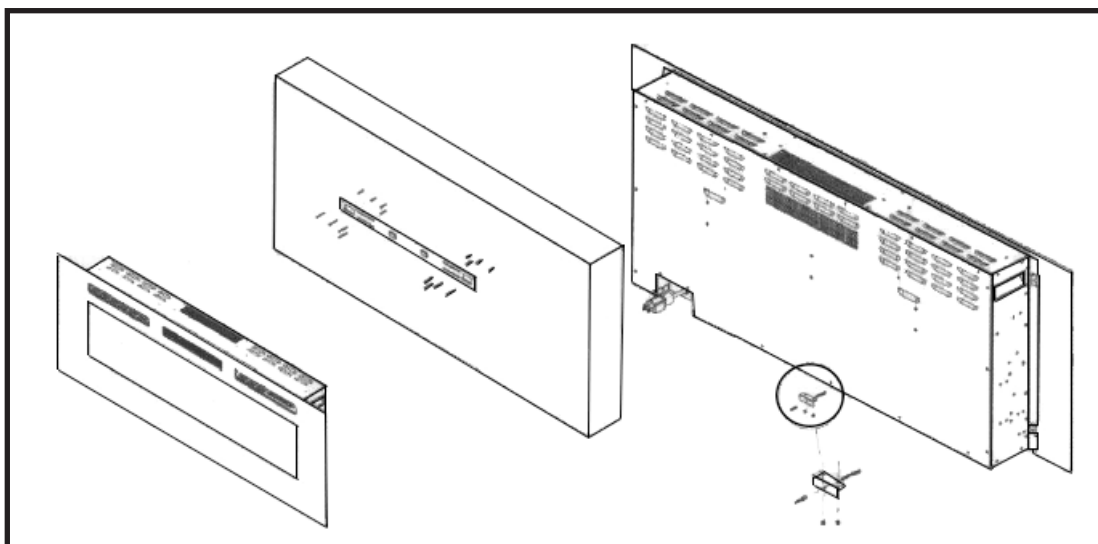

Fig. 4
- Carefully lift up the heater ensuring the top rear ledge of the heater engages with the wall bracket (see Fig. 4) and is sitting centrally. This process should be carried out by two people.